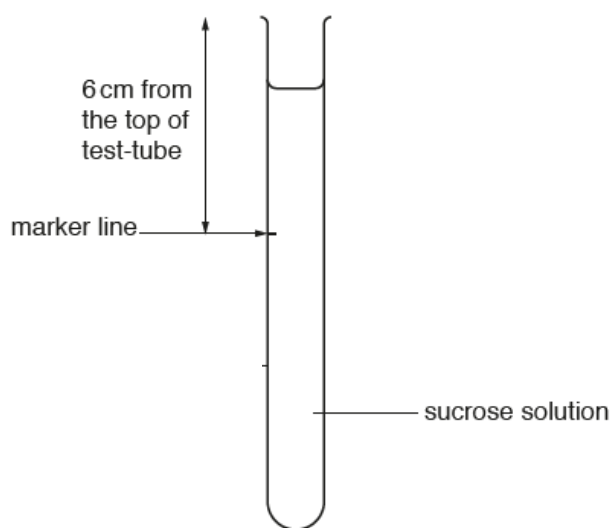

Fig. 1.4
8. Measure **6 cm from the top** of each of the **test tubes** and put a mark, as shown in Fig. 1.4.
You will now use the test-tubes as in Fig. 1.4.